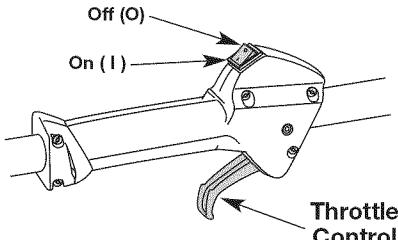

Fig. 13
**NOTE:** There is no need to turn the unit on. The On/Off Control is in the ON (I) position at all times (Fig. 13).
2. Press and hold the On/Off Control in the OFF (O) position until the engine comes to a complete stop (Fig. 13).